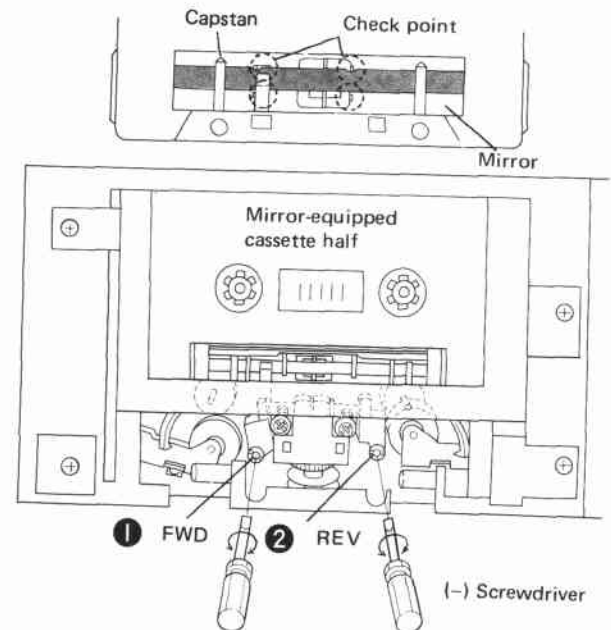

Fig. 12-3 Tape transport adjustment
3. Adjust the adjust nut (1) so that no curling takes place on REC/PB head guide and erase head guide as shown in Fig. 12-3.
5. Adjust the adjust nut (2) so that no curling occurs on REC/PB head guide and dummy head guide.